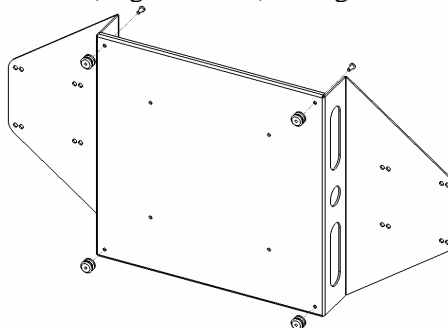

Figure 2
1. Using a 10-24 button head cap screw inserted from back side of bracket, secure mounting button, with chamfered hole of mounting button (larger surface) facing bracket, to bracket (four places) (see Figure 2).